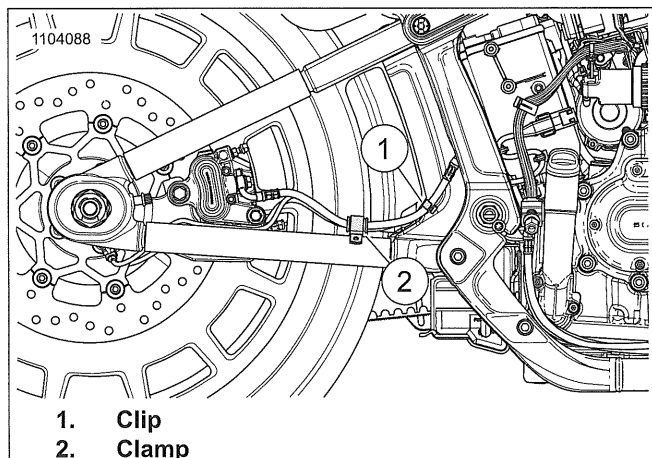
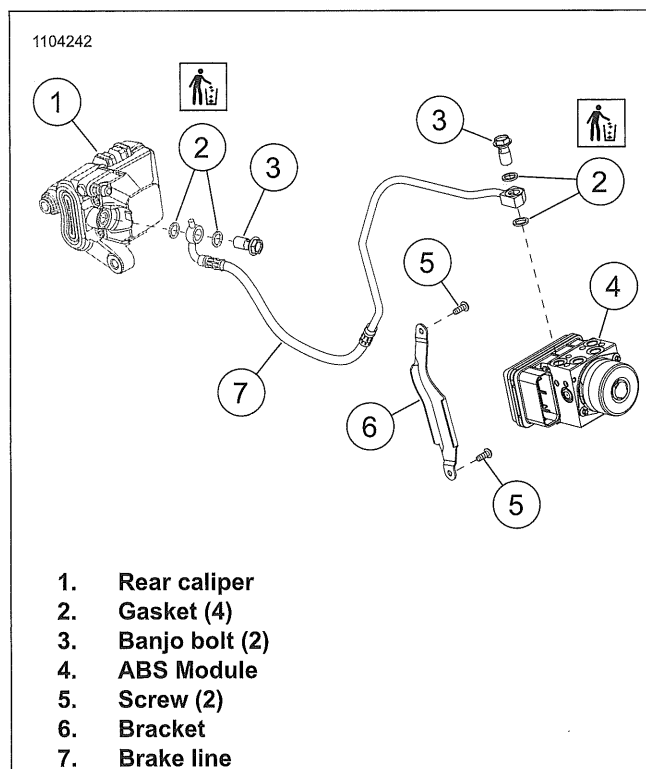

Figure 3-62. Rear Brake Line
Figure 3-63. Brake Line Routing
1. See Figure 3-62. Remove brake line from clip (1).
2. Remove clamp (2).
3. See Figure 3-63. Remove screws (5).
4. Remove bracket (6).
5. Remove banjo bolt (3) and gaskets (2) from brake caliper.
6. Remove banjo bolt (3) and gaskets (2) from ABS module.
7. Discard gaskets (2)
8. Remove brake line (7).
1. See Figure 3-63. Route brake line (7).
6. See Figure 3-62. Install clamp (2).